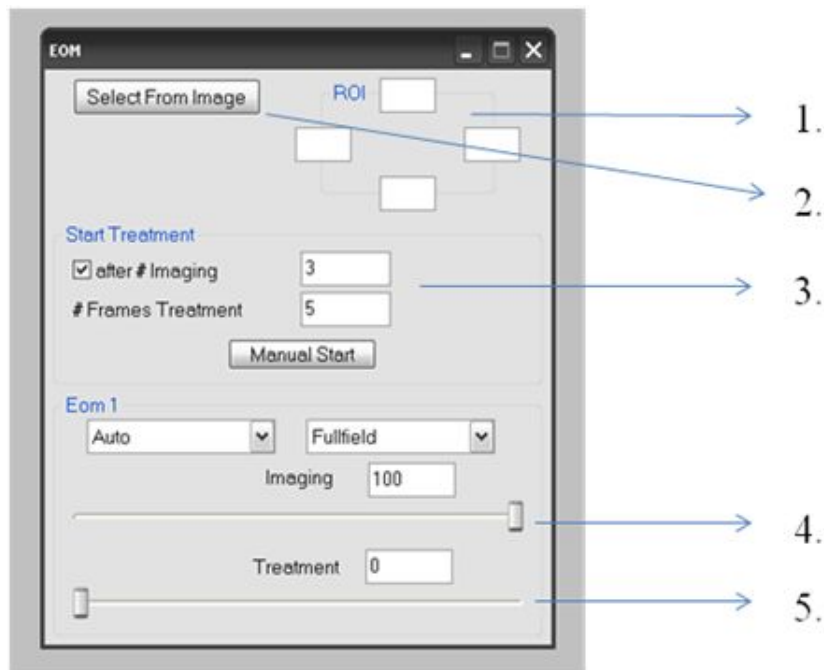

Figure 33: EOM dialog window
Fig. 33 shows the EOM dialog window, which provides the following functionality:
- Select From Image: The selected ROI in the image document window will be selected for the treatment. The selected ROI could be a rectangle, circle, polygon, or a free form [2. in figure 33].
- ROI: displays the number of pixel of the chosen ROI [1. in figure 33].
- c. Imaging Slider: sets the laser Power for the imaging. [4. in figure 33]
- d. Treatment Slider: sets the laser Power for treatment. [5. in figure 33]